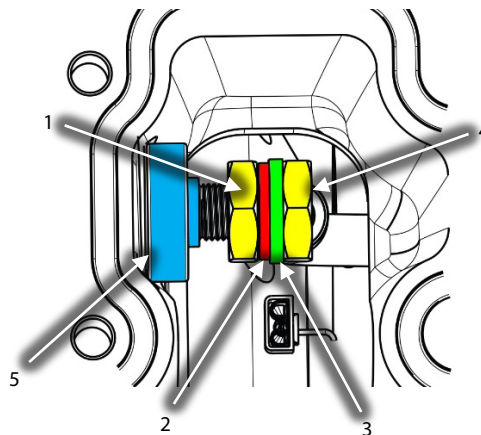

Figure 8 – Inner Nut Installation
4. Thread one (1) nut onto the inner side of each of the three (3) High-Power Feedthroughs. Thread each nut by hand until it is seated against the feedthrough, then back off the nut at least one (1) full revolution. Do not torque the inner High-Power Feedthrough Nuts. Refer to Figure 8 (Inner Nut Installation).